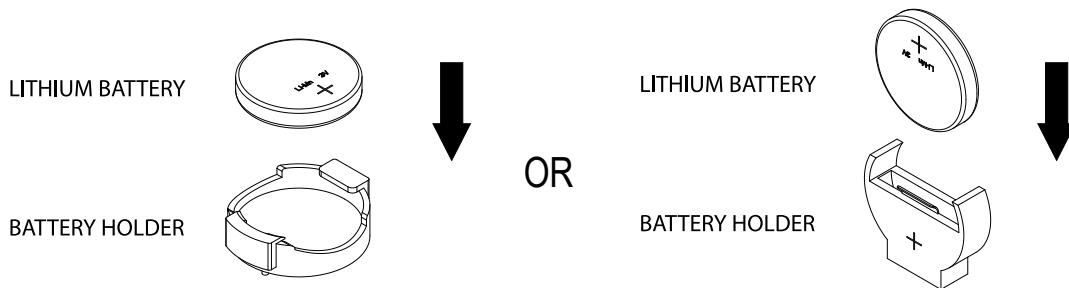

Figure 7-1. Battery Installation
2. Locate the onboard battery (see Figure 7-1).